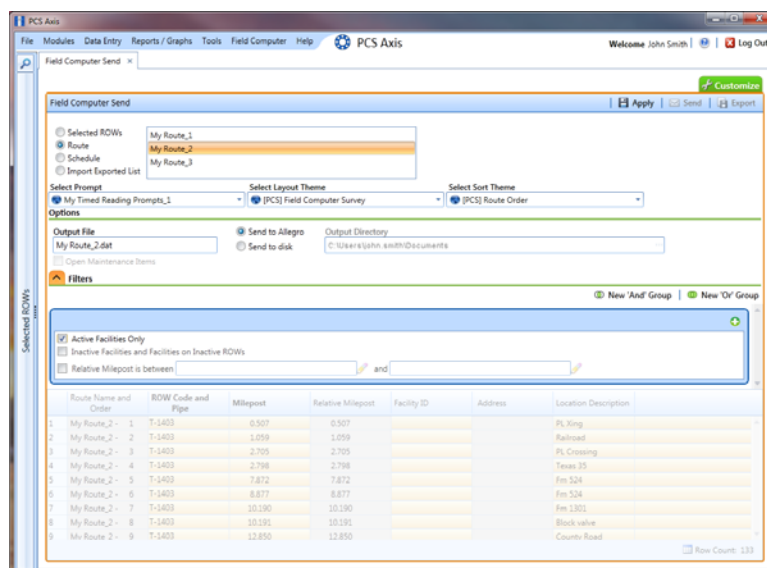

Figure 7-24. Filters
- 22 Click the  **Filters** button to open the *Filters* panel (Figure 7-24).